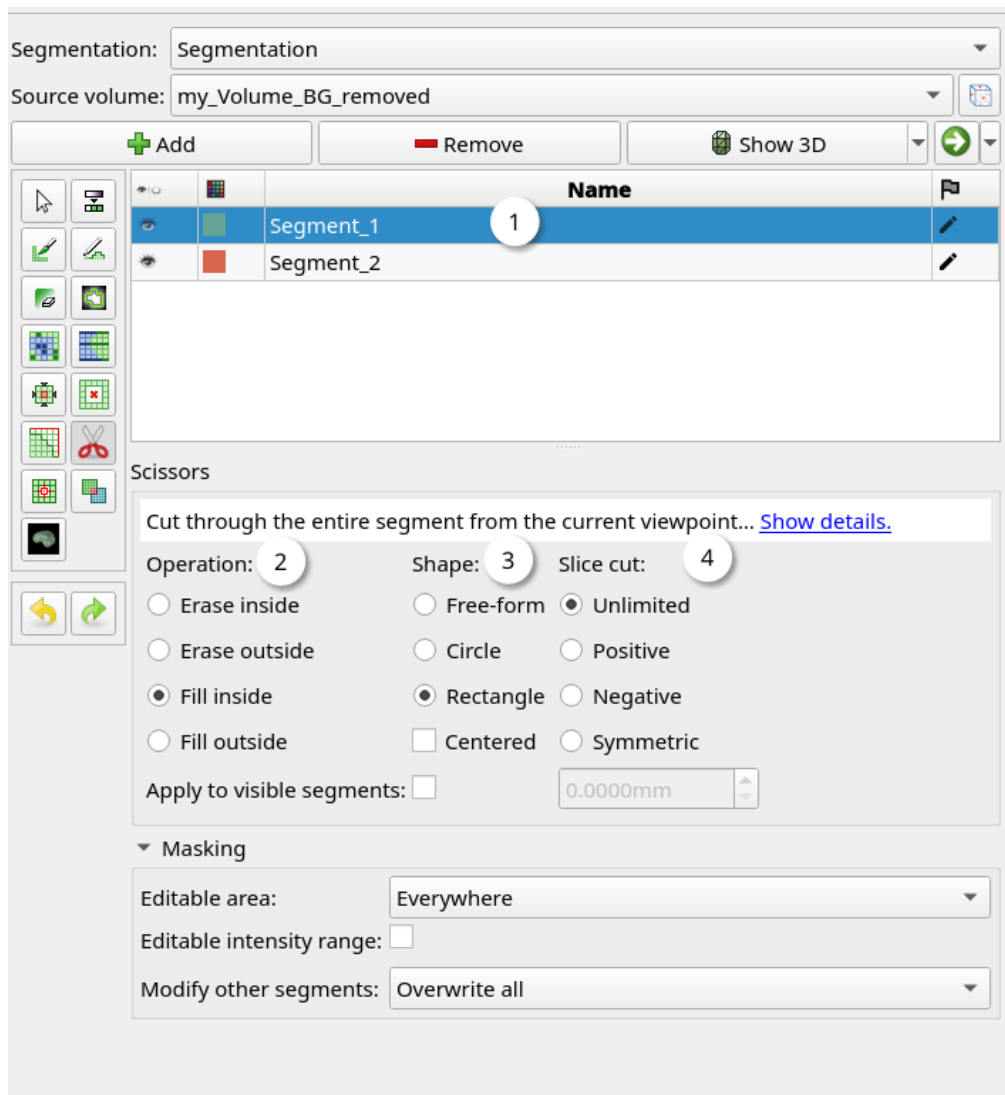

Figure 45: Scissors tool
**Scissors** can be used to cut or fill through a segment. Select a segment to cut (figure 45:1) and pick a mode of operation (figure 45:2).
Pick a ROI shape (figure 45:3). **Centered** means that the ROI will not be drawn from its edge but the center, this may be useful for drawing circular ROIs. Finally, choose which slices should be affected by the **Scissors** tool (figure 45:4).